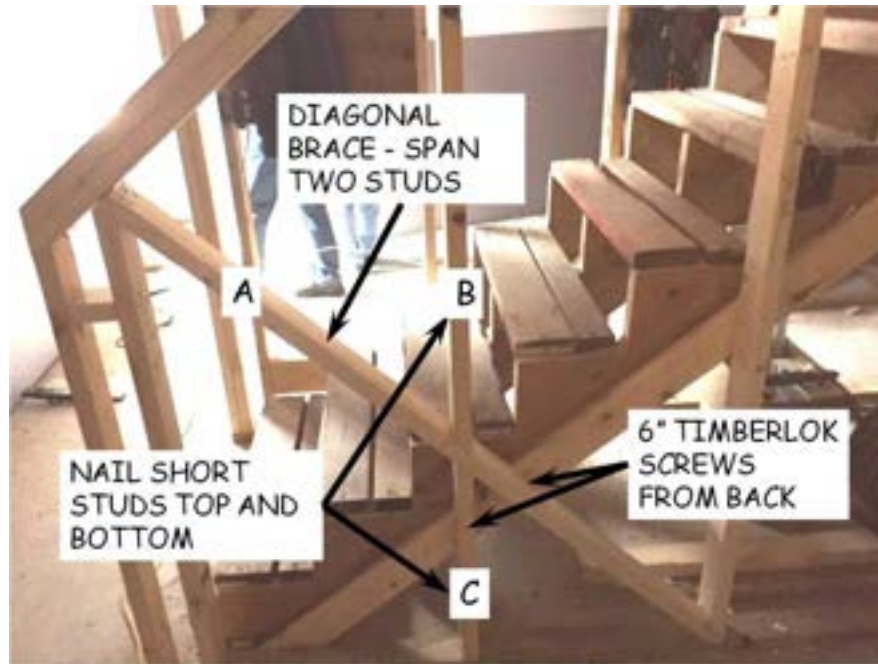

Figure 6-8. Stairway Wall Bracing.
7. To stiffen the wall, cut and nail an angled 2x4 brace between the bottom of the uncut stud and the top of the next cut stud, through the space where the stud was removed earlier (see "A" in Figure 6-8).
- Measure and cut, at the same angle, two 2x4s to fit above and below the angled brace as shown in Figure 6-8, “B” and “C”, respectively. Toenail the lower (“C”) to the bottom plate and through the diagonal brace into the top. Nail the upper (“B”) through the upper plate into the top end and then through the diagonal brace into the lower end. Use two 3/4” collated nails at each location.
- Finally, drive a timber screw through the stringer/OSB/2x4 sandwich into the diagonal brace, and another into the lower Short Stud (“C”) as indicated in Figure 6-8.